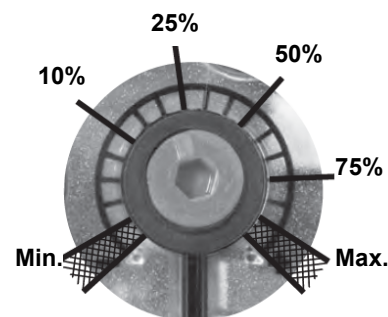
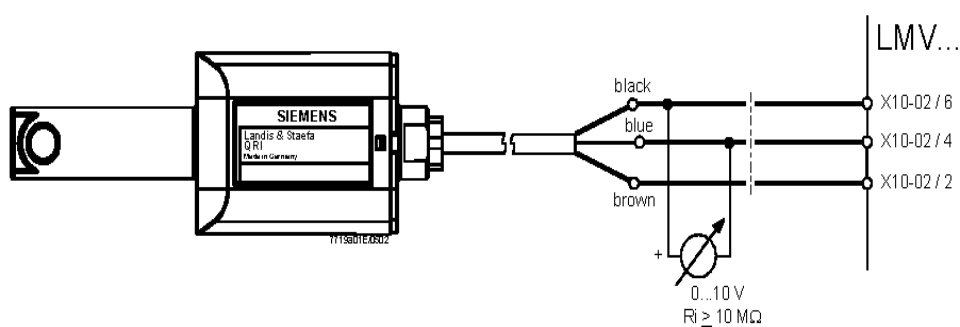

Fig. 3
Fig. 1 - Detection with detector QRI...
- Change the filter if the pressure difference between pressure connection 1 and 3 (Fig. 1-Fig. 3) is $\Delta p > 10$ mbar.
- Change the filter if the pressure difference between pressure connection 1 and 3 (Fig. 1-Fig. 3) is twice as high compared to the last check.